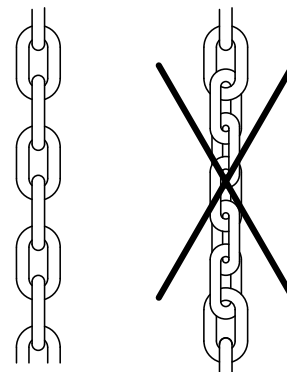

Fig. 2: Variation of the hand
### Variation of the hand chain length (Fig. 2)
- When changing the chain length, care should be taken that the chain is cross - assembled (Fig. 2).